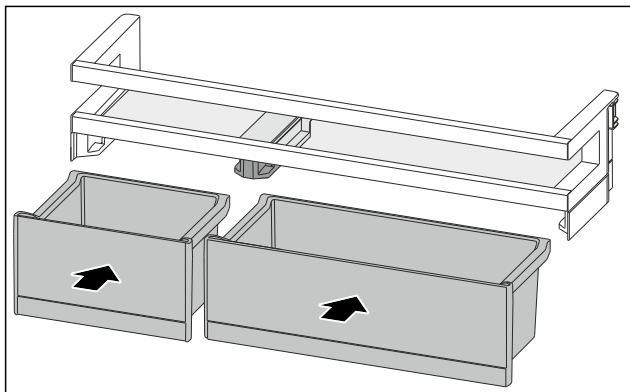

Fig. 163
- ▶ Insert the VarioBoxes in reverse order. (see Fig. 163)